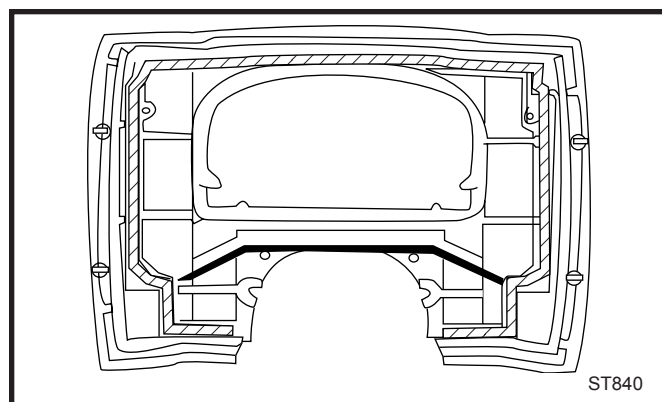

Fig. 7 Top plate cement locations.
12. Cement the channels in the underside of the top plate as indicated in Figure 7.